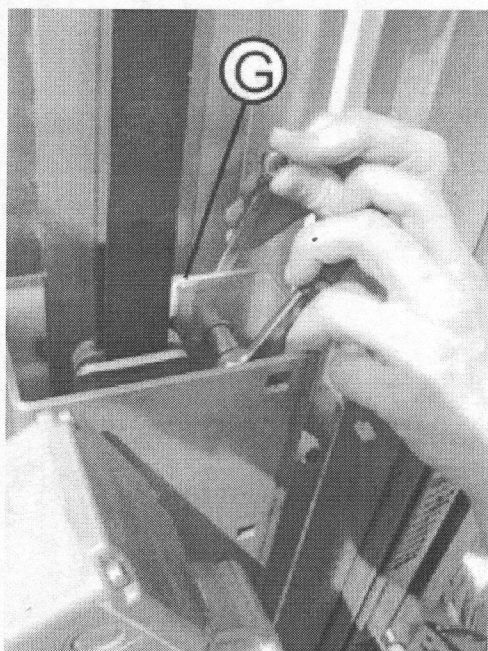

Fig. 045
16. Adjust sliding block (G) and tighten, so that both sliding blocks are close to the running rail without any gap (Fig. 045).